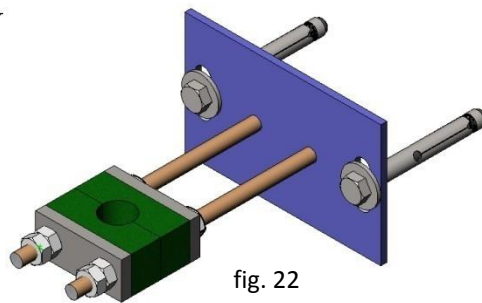

fig. 22
- A stem support-guide is recommended (fig. 22) every 1.5 m.